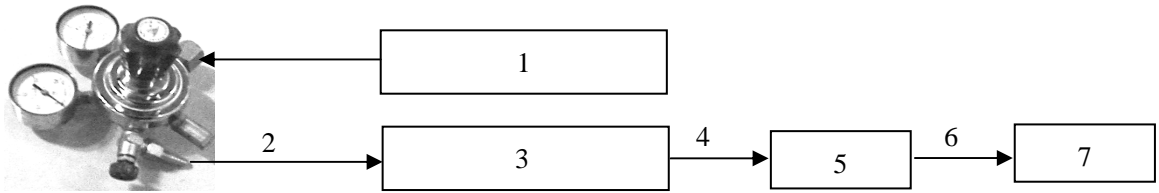

Fig.3-3
b) For Moisture test by nitrogen drying method and volatile matter test with ASTM standard, the installation flow chart of gas supply system of combustion furnace is shown in Fig.3-3: